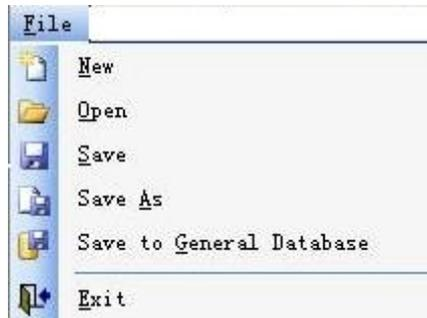

Figure 4-3
A file (F) menu functions; shown in Figure 4-3